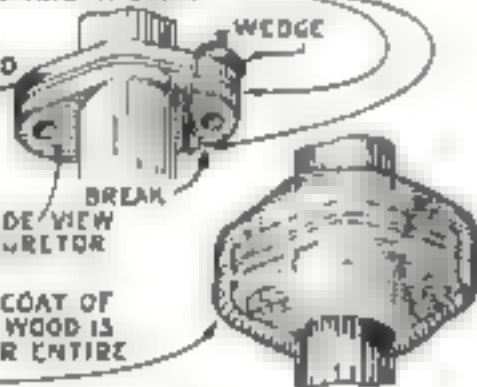

Fig. 2. An emergency repair of a broken carburetor flange, using composition wood to patch.
**FIGURE 2** shows an emergency method of repairing a broken carburetor flange which may prove serviceable on a trip. It will do the trick until a service